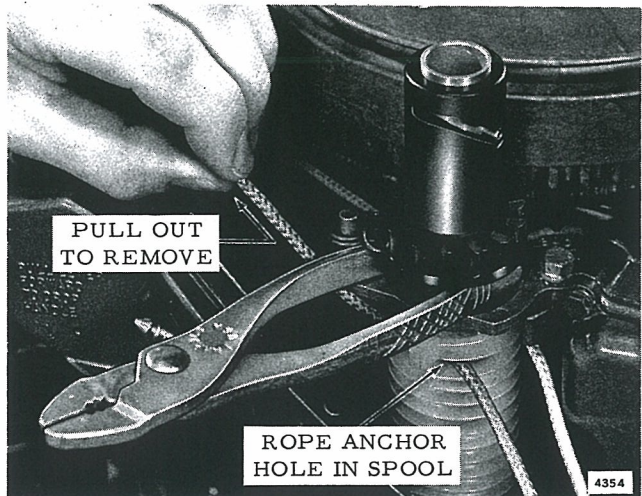

Figure 7-4. Removing Rope
c. Pull rope from starter spool. See Figure 7-4.